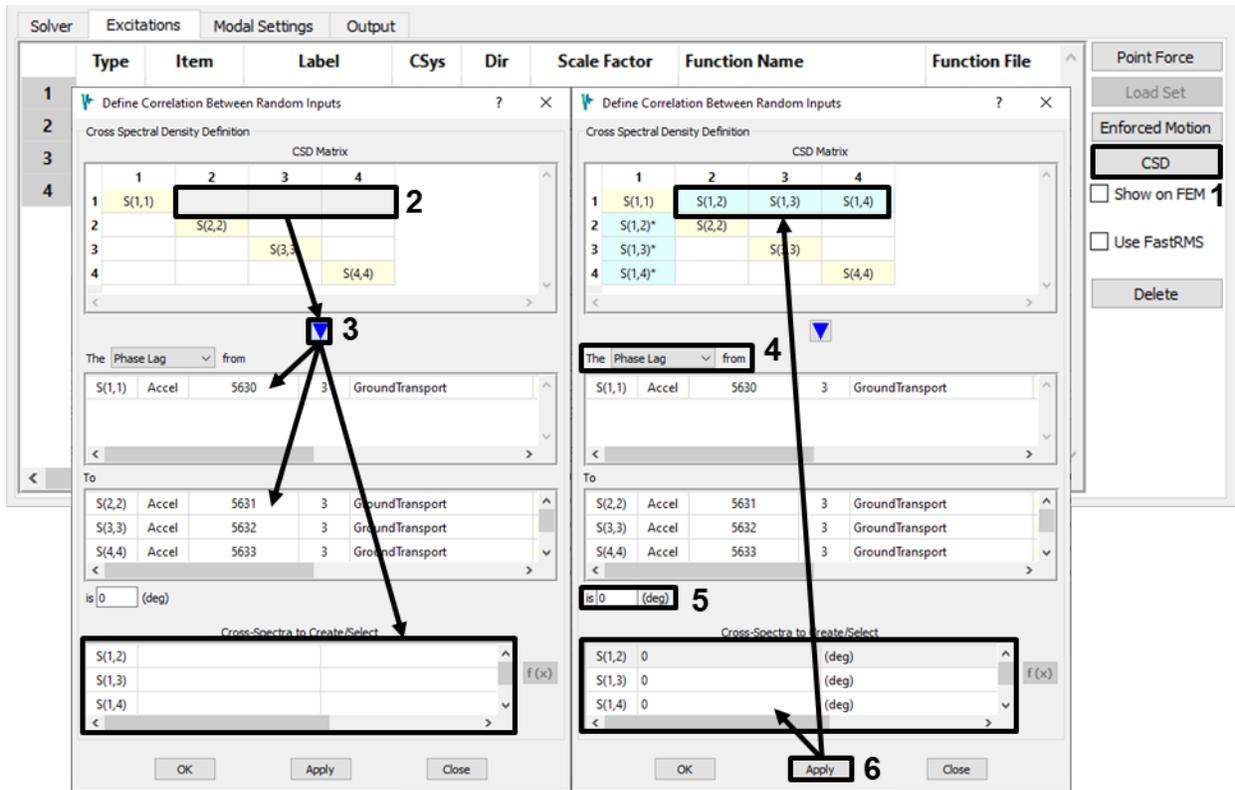

Figure 4-59. Define 0-degree phase lag correlations from the first input PSD to the other three.
2. On the *Excitations* tab, bring up the CSD dialog. Select the entire first row of the *CSD Matrix* table and click the **Assign Selected CSD** button  (Figure 4-59). This prepares the dialog to create correlations from the first input PSD to the other three PSDs. Make sure the **CSD Type** pulldown is set to *Phase Lag* and the **Phase/Time lag** field is set to 0 degrees. When you click the **Apply** button, the defined CSDs are created and the *CSD Matrix* table is updated. Continue selecting rows, clicking the